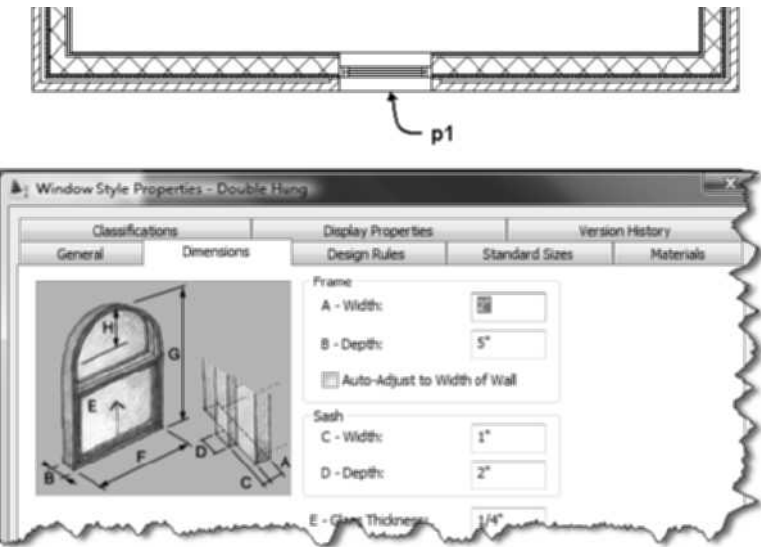

FIGURE 5.37 Dimensions tab of a window style in the Style Manager
4. Select the window at p1 as shown in Figure 5.37, and choose **Edit Style** from the Edit Style flyout to open the Window Style Properties dialog box.
6. Choose the **Dimensions** tab. The Dimensions tab shown in Figure 5.37 allows you to specify the size of the frame, sash, and glass size of the window. This tab is similar to the Dimensions tab of a door style.